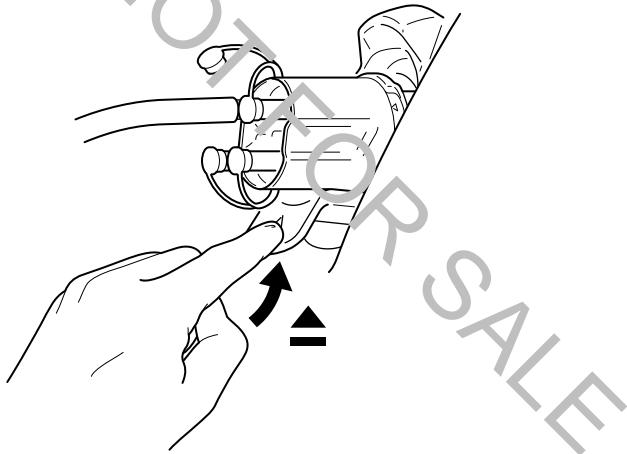

Figure 36 – Remove the Manifold
- Push the EJECT button to remove the manifold from the receptacle (Figure 36). Maintain the manifold in a horizontal orientation.